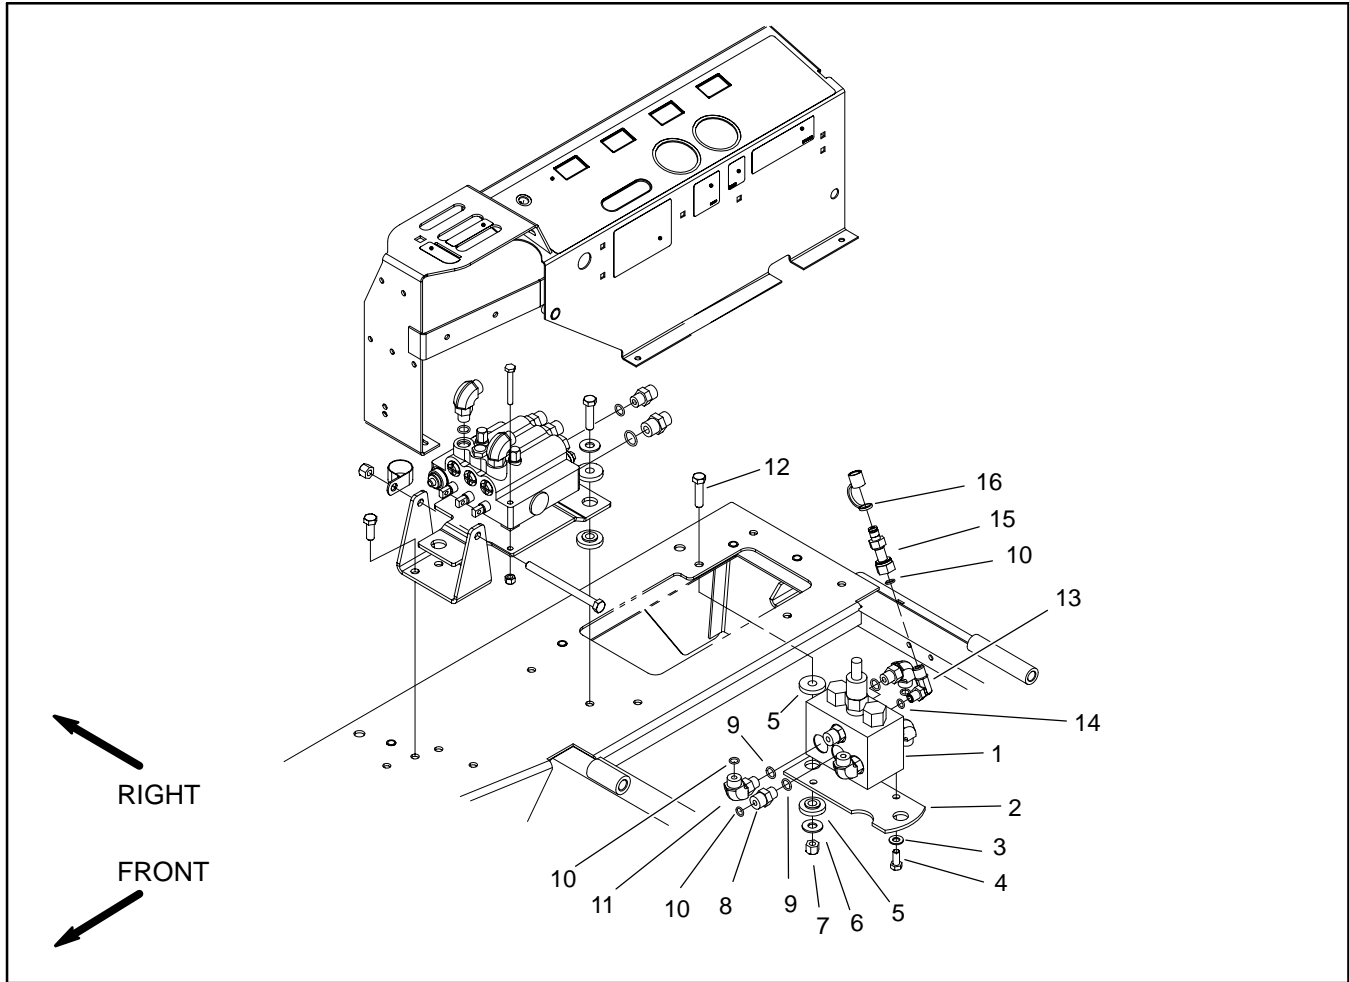

Figure 94
Removal (Fig. 94)
4. Remove hydraulic manifold from the frame using Figure 94 as guide.
Installation (Fig. 94)
2. Install hydraulic manifold to the frame using Figure 94 as guide.
- A. If valve plate (item 2) was removed, tighten lock nut (item 7) until washer begins to seat in isolator (item 5). Do not cause isolator to be deformed during valve plate installation.